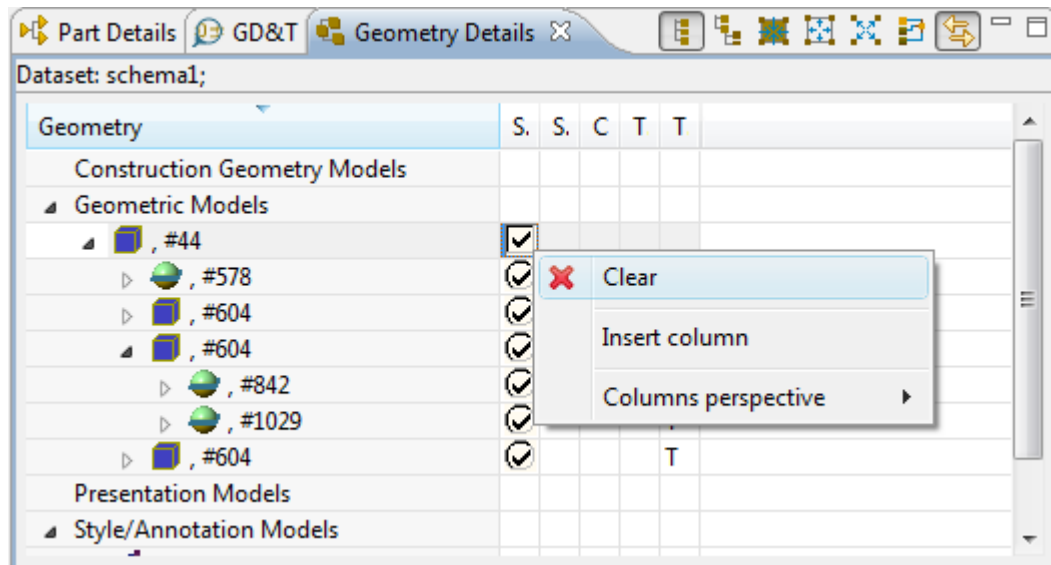

Figure 4. Clear menu item
- Right click on the **Show/Hide** column cell of the root assembly node and select **Clear** menu item in the appeared context sensitive menu (see Figure 4).